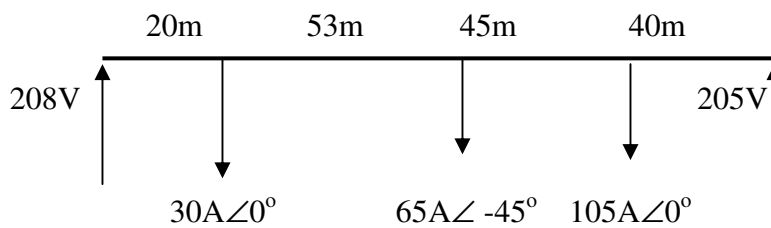

Fig.2
- (a) A distribution system is fed from both ends as shown in Fig.2. Given that the line resistances send and return, is 0.0025Ω per metre and currents and distances as shown.